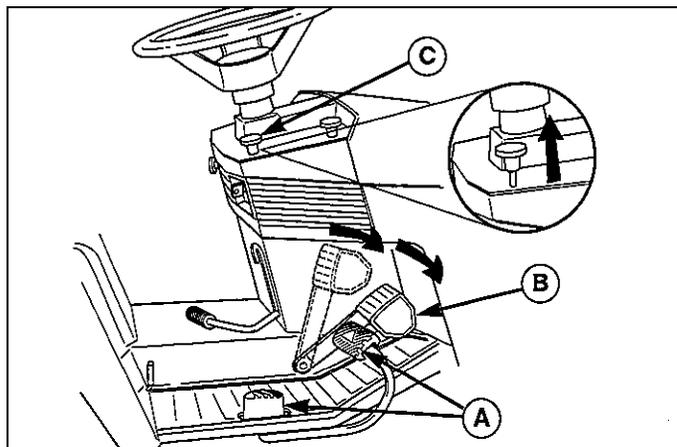

Figure 2. Engaging the Parking Brake
Applying the Parking Brake - See Figure 2. To lock the parking brake, release the ground speed pedals (A), fully depress the brake pedal (B), pull UP on the parking brake /cruise control knob (C), and then release brake pedal.
Releasing the Parking Brake - See Figure 2. To release the parking brake, fully depress the brake pedal (B) and push the parking brake /cruise control knob (C) DOWN.